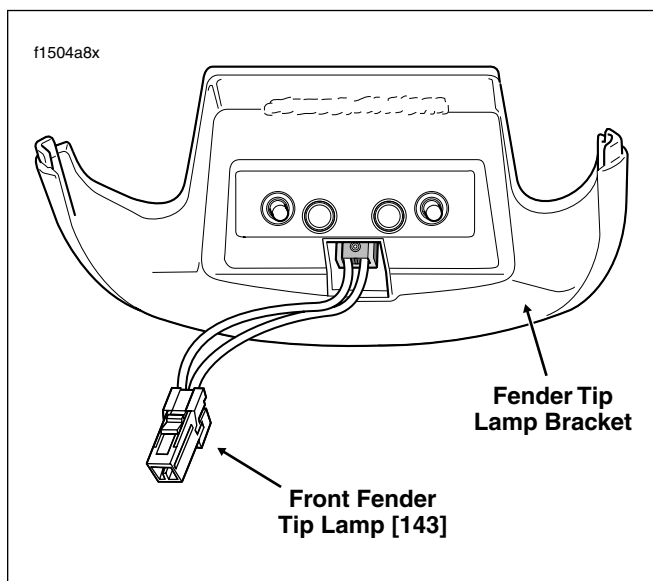

Figure 8-47. Fender Tip Lamp Assembly
3. Disconnect front fender tip lamp connector [143], 2-place Multilock. See Figure 8-47.
1. Connect front fender tip lamp connector [143], 2-place Multilock. See Figure 8-47.
12. Disconnect front fender tip lamp connector [143], 2-place Multilock, to release fender tip lamp assembly from jumper harness. See Figure 8-47.
1. Connect front fender tip lamp connector [143], 2-place Multilock, to attach fender tip lamp assembly to jumper harness. See Figure 8-47.